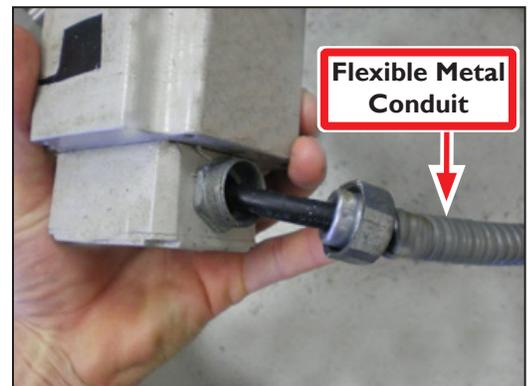

Figure 9
C. Loosen conduit fitting on back of motor and pull back the *Flexible Metal Conduit* slightly to expose motor wires (see **Figure 9**).